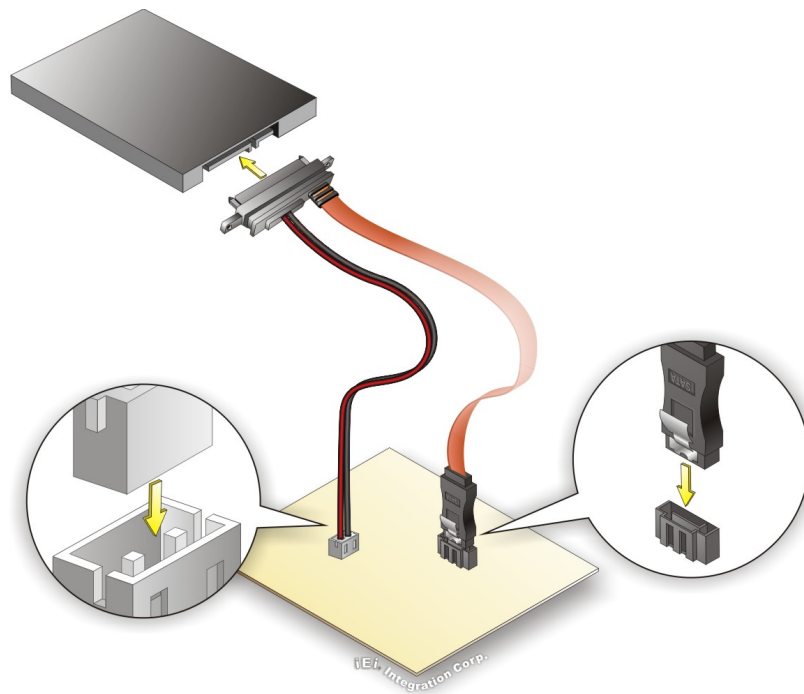

Figure 4-22: SATA Drive Cable Connection
- Step 2: Insert the cable connector.** Insert the cable connector into the on-board SATA drive connector and the SATA power connector. See **Figure 4-22**.
- Step 3:** Connect the cable to the SATA disk. Connect the connector on the other end of the cable to the connector at the back of the SATA drive. See **Figure 4-22**.